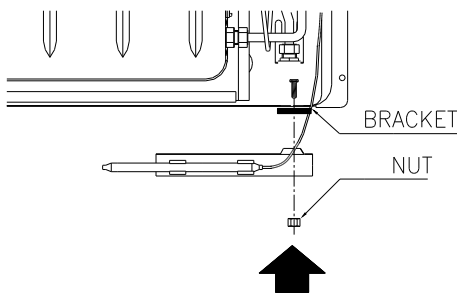

Figure 19
- Place the thermostat sensor under the right bottom of the bracket and fix it with the same nut that fixes the appliance to bracket as shown in figures 19 and 20